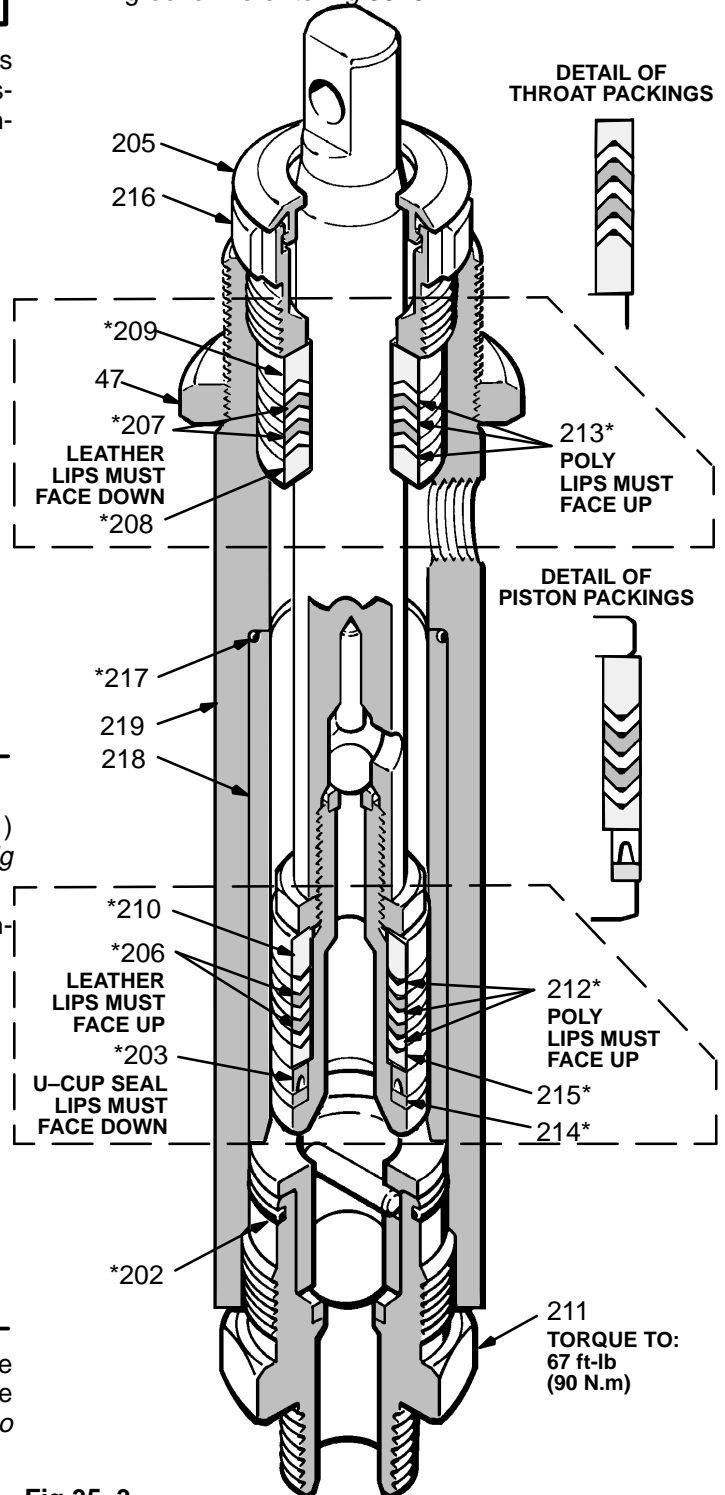
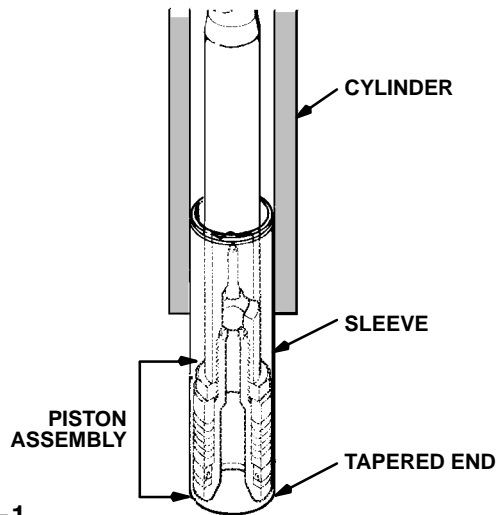

Fig 35-3
Fig 36-1
3. Remove the packing nut (216) and plug (205). Refer to Fig 35-3.
4. Use a plastic mallet to tap the piston rod (224) down, then pull the rod out through the bottom of the cylinder.
5. Remove the throat packings (207, 213) and glands (208, 209). Refer to Fig 35-3.
- One at a time stack the male gland (208\*), alternate the packings (213\*, 207\*), and then install the female gland (9), into the top of the cylinder (219). Refer to Fig 35-3.
- Install the packing nut (216) and plug (205), but leave loose for now. Refer to Fig 35-3.
**NOTE:** The tapered end of the sleeve is the bottom of it. Refer to Fig 36-1.
- Place a new o-ring (217\*) firmly in the cylinder groove. Refer to Fig 35-3.
12. Slide the sleeve/piston rod assembly **INTO THE BOTTOM OF THE CYLINDER**. This is to prevent packing damage during reassembly. Refer to Fig 36-1.
13. Screw down the cylinder locknut (38) until it is finger tight at the bottom of the external cylinder threads.
14. Place flats of the intake valve (223) in a vise. Install a new o-ring (202\*). Screw the pump cylinder into the valve. Torque to 67 ft-lb (90 N.m). Refer to Fig 35-3.